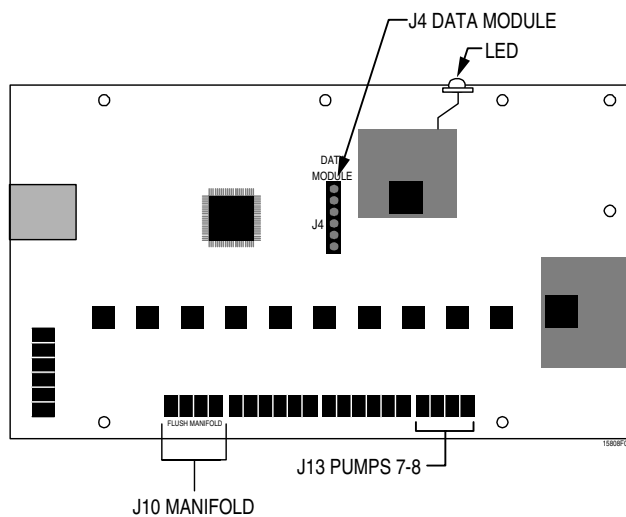

Figure 1. Dispenser main PCB, component locations
See Figures 1 for the position of these components.
11. Connect the XLT-to-PCB harness adapter to the J10 position on the Main PCB labeled **Manifold**. See Figure 1 for position.